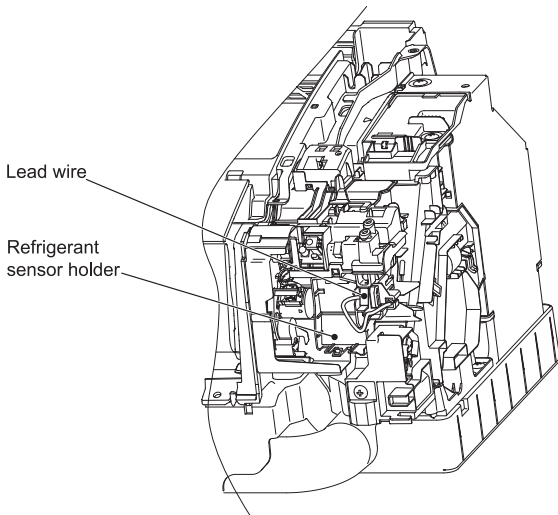

Fig. 1
- (1) Remove the lead wire fixed to the refrigerant sensor holder, then connect it to the refrigerant sensor board. (Fig.1)
- (1) Remove the panel.
- (2) Remove the insulation and take out the lead wire below the insulation. (Fig. 1)